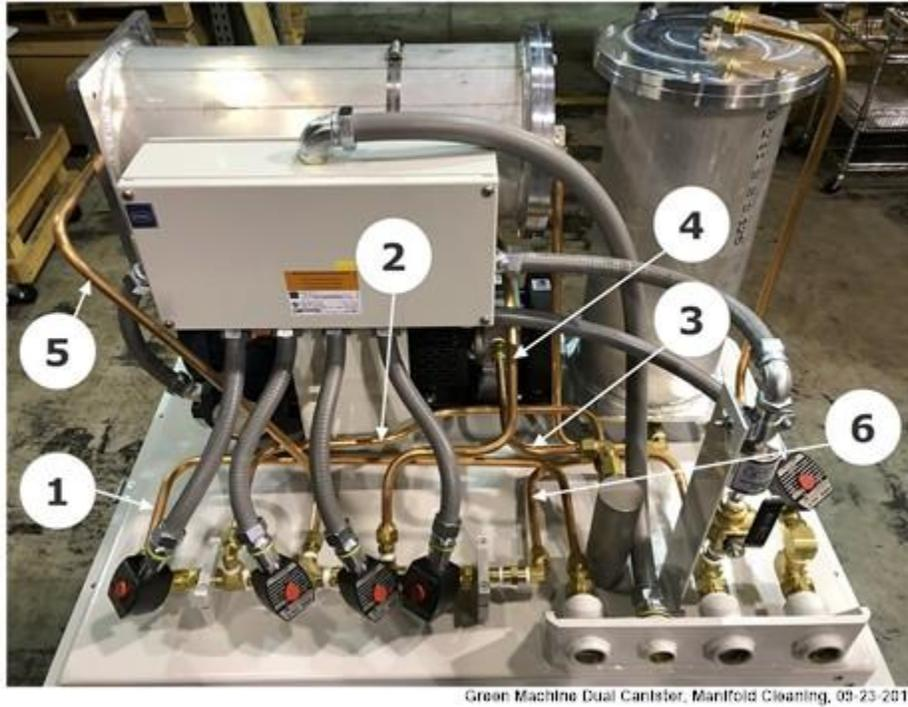

Figure 9-20: Items Associated with Cleaning the GREEN MACHINE Tubing and Manifold
### See Figure 9-20.
5. Remove tubes 1, 2, 3, 4, 5, and 6 from the GREEN MACHINE. **See Figures 9-20 & 9-21.**
4. Reinstall the 6 tubes. **See Figures 9-20 and 9-21.**